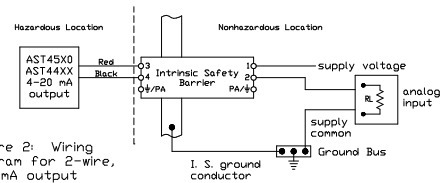

Figure 2: Wiring diagram for 2-wire, 4-20mA output
1. For installation in accordance with Fig. 2, barrier must be a CSA Certified, Single Channel grounded Shunt-Diode Zener Barrier or a Single Channel Isolating Barrier.